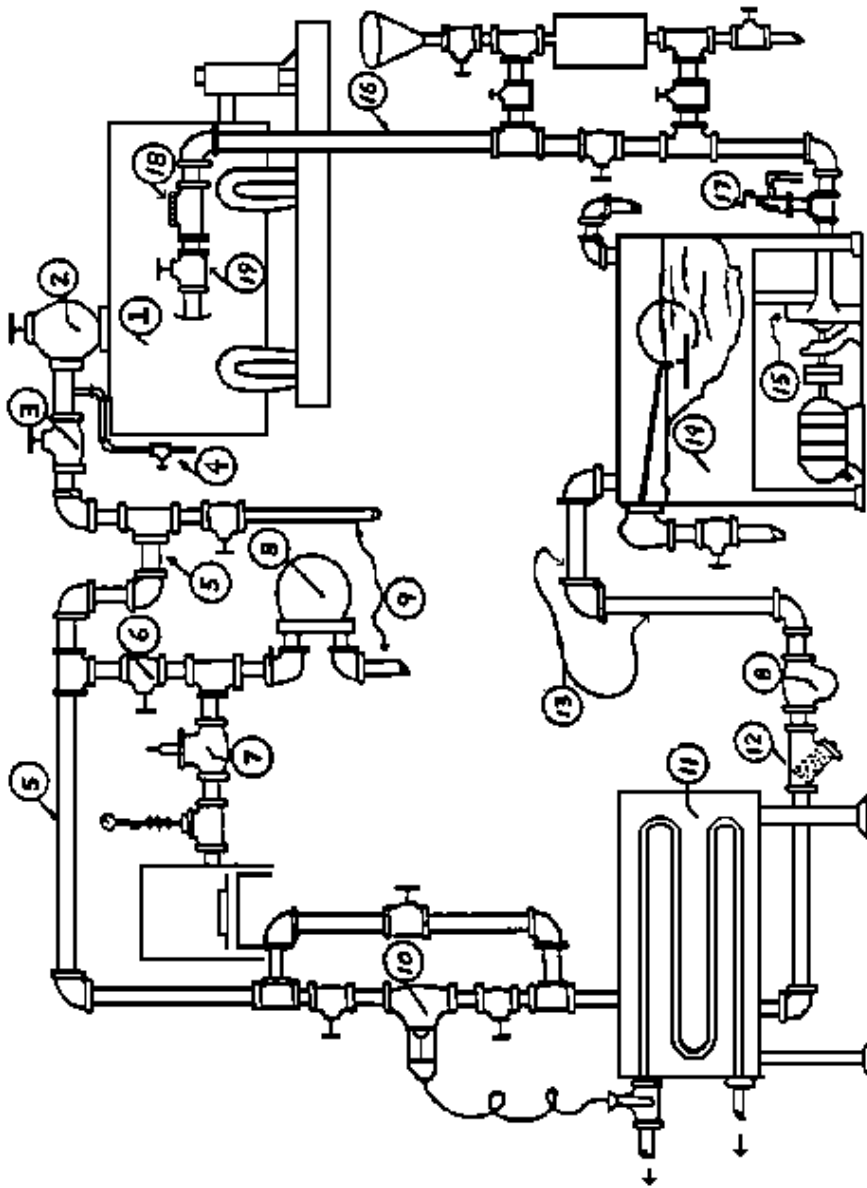

Figure 2
- \* d. Identify the functions, location, design and installation requirements of boiler auxiliary equipment. (Refer to figure 2)